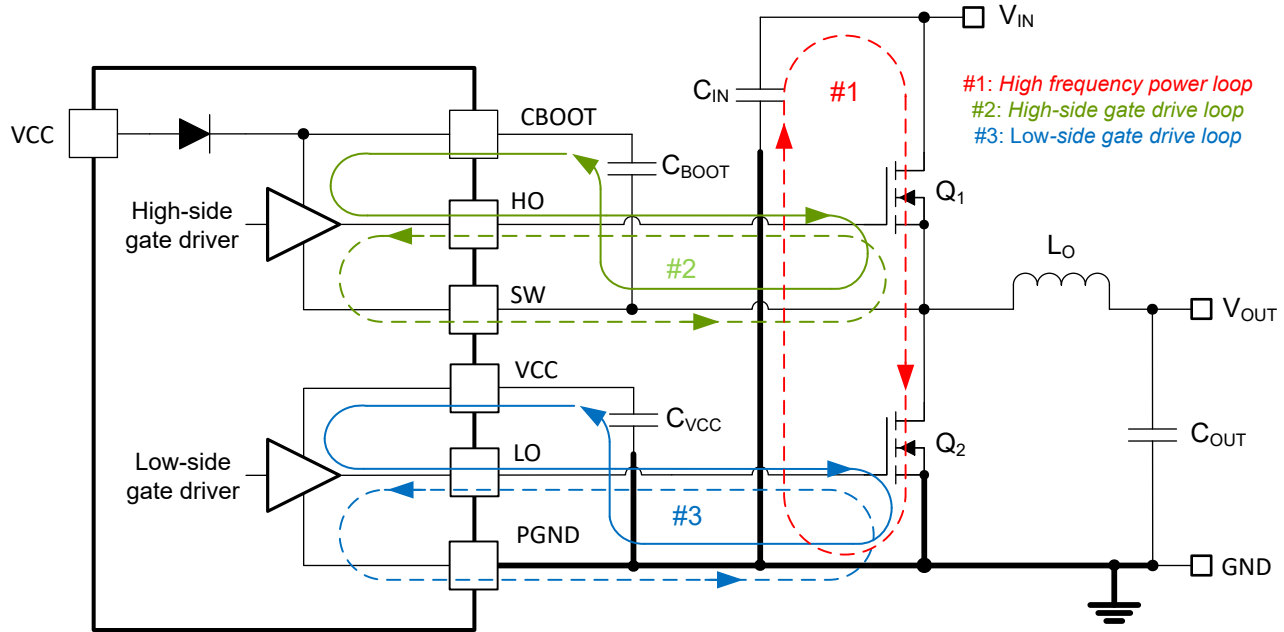

图 9-47. DC/DC Regulator Ground System With Power Stage and Gate Drive Circuit Switching Loops
Proper PCB design and layout is important in a high-current, fast-switching circuit (with high current and voltage slew rates) to achieve a robust and reliable design. As expected, certain issues must be considered before designing a PCB layout using the LM5149. The high-frequency power loop of a buck regulator power stage is denoted by loop 1 in the shaded area of 图 9-47. The topological architecture of a buck regulator means that particularly high di/dt current flows in the components of loop 1, and it becomes mandatory to reduce the parasitic inductance of this loop by minimizing its effective loop area. Also important are the gate drive loops of the high-side and low-side MOSFETs, denoted by 2 and 3, respectively, in 图 9-47.
- Loop 1: The most important loop area to minimize is the path from the input capacitor or capacitors through the high- and low-side MOSFETs, and back to the capacitor or capacitors through the ground connection. Connect the input capacitor or capacitors negative terminal close to the source of the low-side MOSFET (at ground). Similarly, connect the input capacitor or capacitors positive terminal close to the drain of the high-side MOSFET (at VIN). Refer to loop 1 of 图 9-47.
5. The SW pin connects to the switch node of the power conversion stage and acts as the return path for the high-side gate driver. The parasitic inductance inherent to loop 1 in 图 9-47 and the output capacitance (C_{OSS}) of both power MOSFETs form a resonant circuit that induces high frequency (greater than 50 MHz) ringing at the SW node. The voltage peak of this ringing, if not controlled, can be significantly higher than the input voltage. Make sure that the peak ringing amplitude does not exceed the absolute maximum rating limit for the SW pin. In many cases, a series resistor and capacitor snubber network connected from the SW node to GND damps the ringing and decreases the peak amplitude. Provide provisions for snubber network components in the PCB layout. If testing reveals that the ringing amplitude at the SW pin is excessive, then include snubber components as needed.
- Loop 2: high-side MOSFET, Q_1 . During the high-side MOSFET turn-on, high current flows from the bootstrap (boot) capacitor through the gate driver and high-side MOSFET, and back to the negative terminal of the boot capacitor through the SW connection. Conversely, to turn off the high-side MOSFET, high current flows from the gate of the high-side MOSFET through the gate driver and SW, and back to the source of the high-side MOSFET through the SW trace. Refer to loop 2 of Figure 9-47.
- Loop 3: low-side MOSFET, Q_2 . During the low-side MOSFET turn-on, high current flows from the VCC decoupling capacitor through the gate driver and low-side MOSFET, and back to the negative terminal of the capacitor through ground. Conversely, to turn off the low-side MOSFET, high current flows from the gate of the low-side MOSFET through the gate driver and GND, and back to the source of the low-side MOSFET through ground. Refer to loop 3 of Figure 9-47.